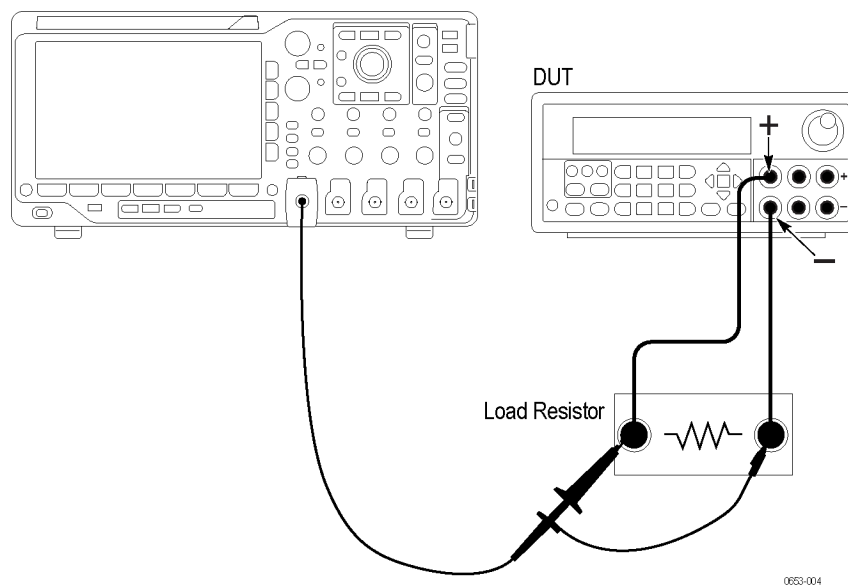

Figure 7: 7 MHz test setup. The channel 1 test setup is shown.
4. Set up the equipment as shown. (See Figure 7.)